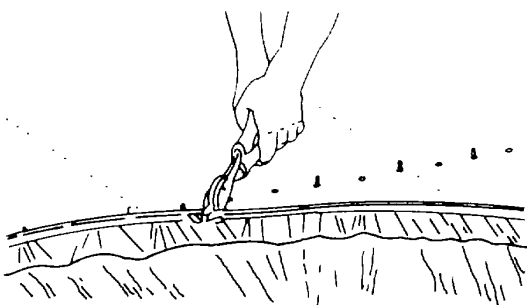

Figure 7-17. Using Deicer Boot Pliers
(1) Grasp the wire between the jaws, and apply the locking sleeve with the thumb.
(2) Pull the knob to twirl the pliers which make uniform twists in the wire.
(3) If further twisting is required, push the knob back into the pliers and pull the knob again.
(4) When the wire is twisted as required, squeeze the handles together to unlock the jaws and release the wire.
(5) Cut the wire to the desired length with the side cutter.
**7-12. Deicer Boot Pliers.** When a deicer boot is installed, it usually is pulled on over rivnut studs to hold it in place while the rivnut screws are started. To provide a larger gripping surface to prevent tearing the deicer boot, deicer boot pliers are used. These pliers have two rods, about one inch long, welded perpendicularly to the jaws and wrapped with tape. Figure 7-17 shows deicer boot pliers being used.